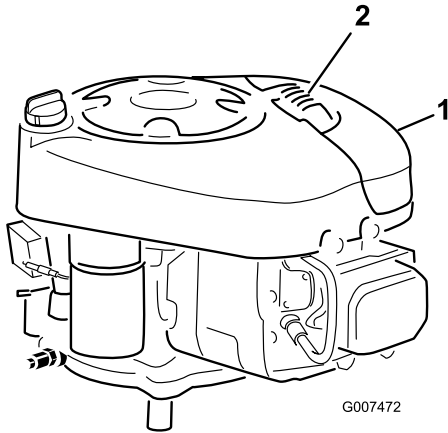

Figure 24
2. Clean around the air cleaner to prevent dirt from getting into the engine and causing damage (Figure 24).
3. Pull up on the air cleaner cover handle and rotate it toward the engine (Figure 24).